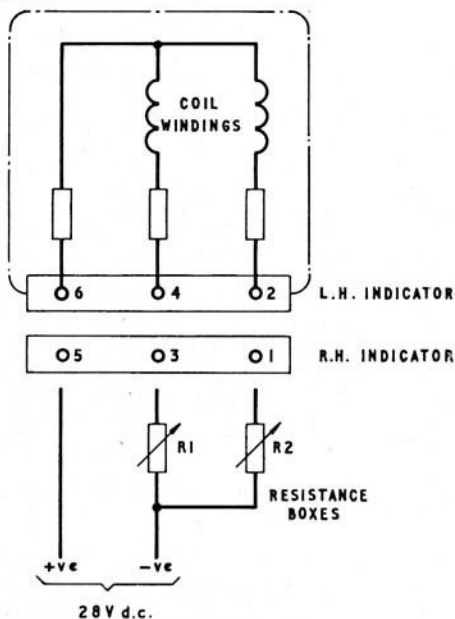

Fig. 2. Circuit and test circuit diagram
3. The combined circuit and test circuit diagram is shown in fig. 2. Connection to the indicator is made via six 4 B.A. screws fitted with captive washers, at the rear of the indicator.